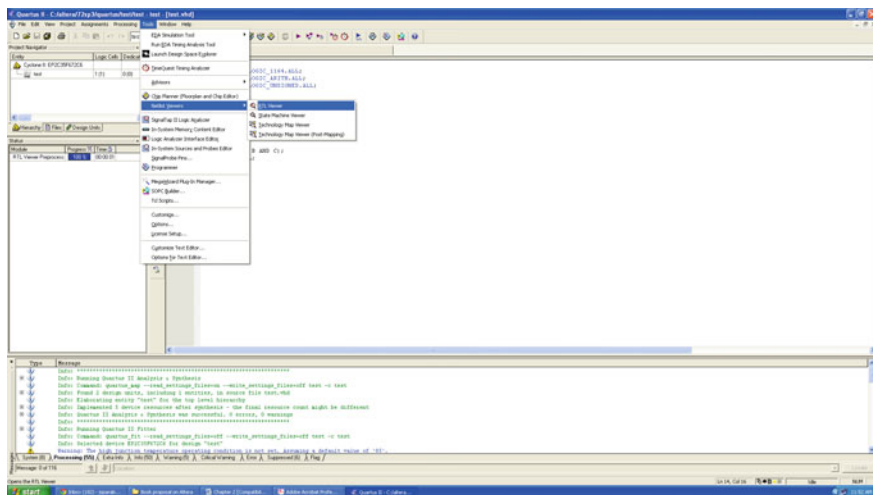

Fig. 2.9 RTL viewer selecting window
- (4) If you want to see the designed system at Netlist (Gate) level, on the menu bar select tools > click on Netlist Viewer > RTL Viewer as shown in Fig. 2.9.